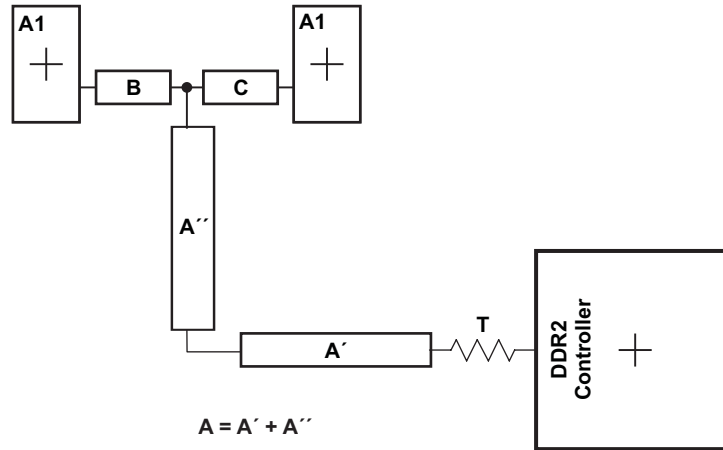

Figure 8-53. CK and ADDR_CTRL Routing and Topology
Figure 8-53 shows the topology of the routing for the CK and ADDR_CTRL net classes. The route is a balanced T as it is intended that the length of segments B and C be equal. In addition, the length of A ($A'+A''$) should be maximized.
- (1) The length of segment $A = A' + A''$ as shown in Figure 8-53.
- (2) Series terminator, if used, should be located closest to the device.
- (3) Center-to-center spacing is allowed to fall to minimum (2w) for up to 500 mils of routed length to accommodate BGA escape and routing congestion.
- (4) CACLM is the longest Manhattan distance of the CK and ADDR_CTRL net classes.